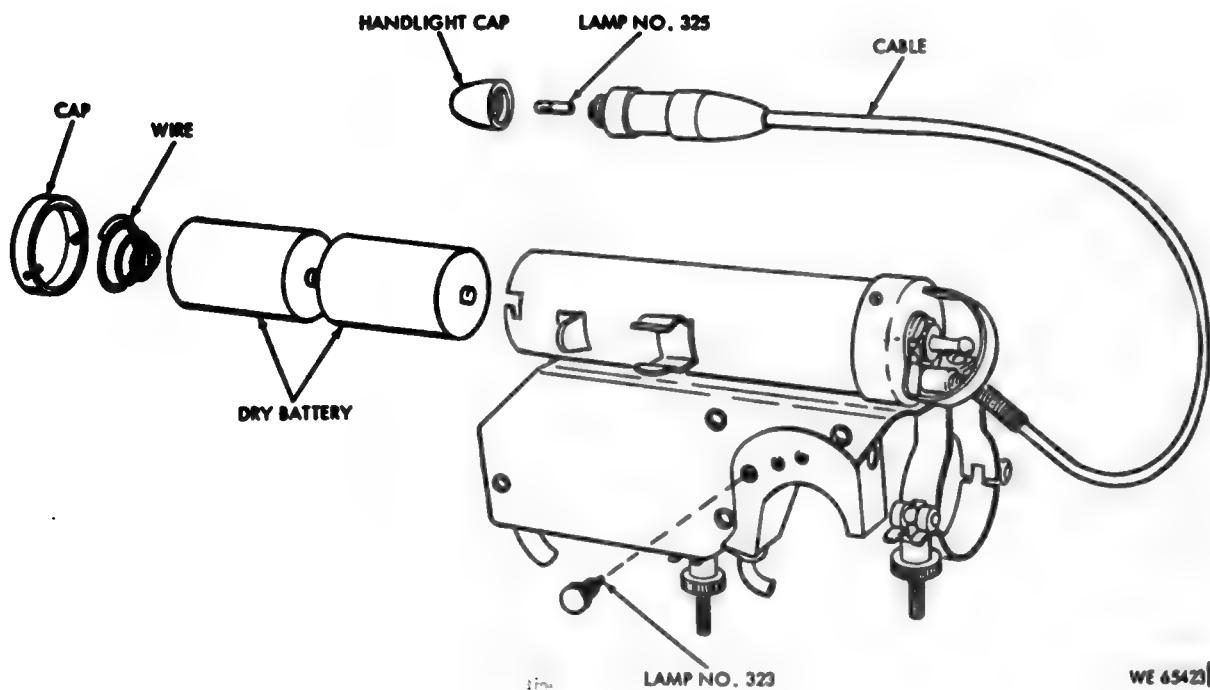

Figure 171. Instrument light M34 — partially exploded view.
(1) To replace batteries in the instrument light M34 remove cap on battery tube (fig. 171). The cap is secured by pins in two bayonet slots and is removed by pressing the cap inward and turning slightly until free. When installing the batteries in the bodytube, be sure they go back into the same position as when removed. See that the pins in the cap engage the bayonet slots in the body to assure a tight contact with battery terminals.
(1) To remove a defective lamp in the hand light or lamp housing of the instrument light, refer to figure 171.